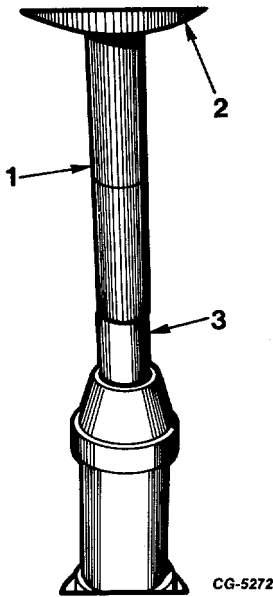

Fig. 31 Installing Lower Bushing using Installer SE-1955-7.
5. Position distributor housing in press. Insert bushing installer (SE1955-7) into bushing (Figure 31).